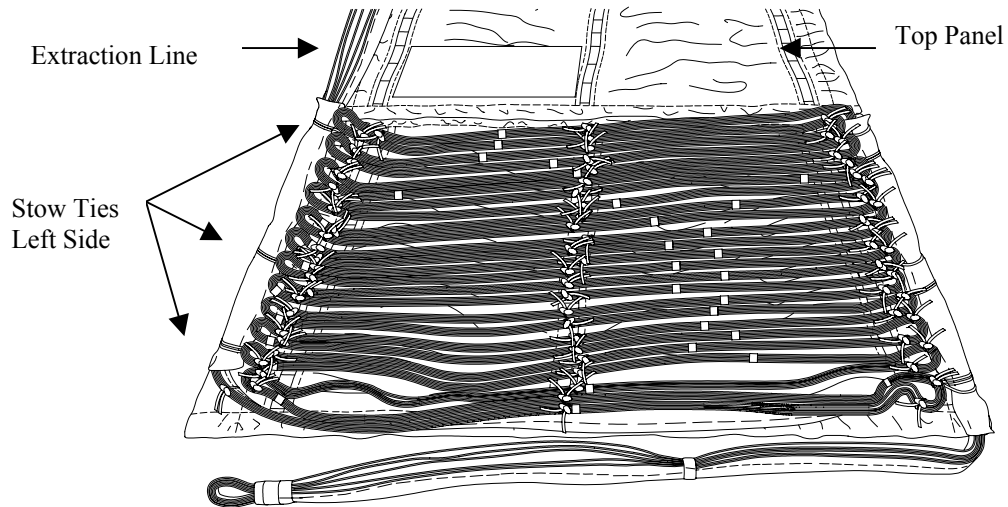

Figure 7. Extraction Line Stowed to Bottom Panel.
- g. Secure the extraction line on the left side of bottom panel using one turn type I, 1/4-inch cotton webbing (previously installed), on stow loops 1, 6, and 12 on the left side (figure 7).